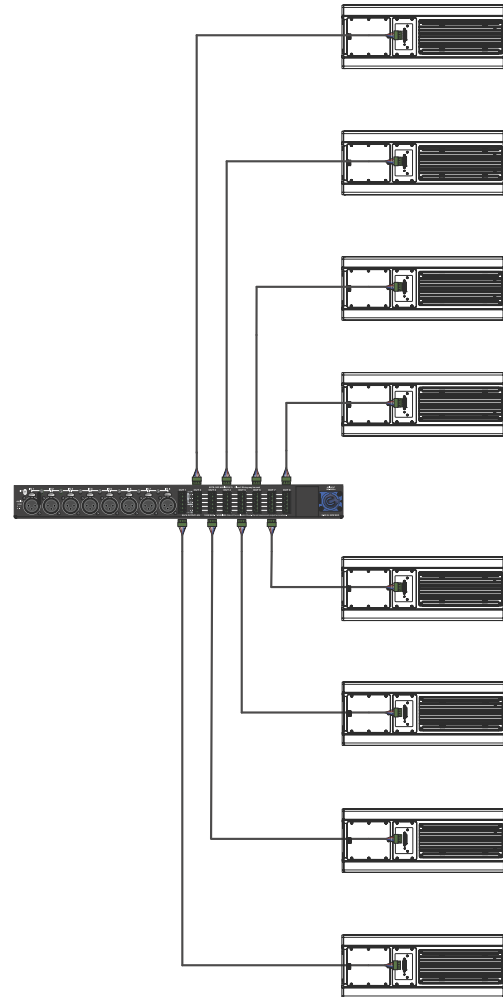

Figure 7: MPS-488HPp with Eight ULTRA-X20XP Loudspeakers
4. Connect the ULTRA-X20XP loudspeakers to the MPS-488HP Channel Outputs (Figure 7).